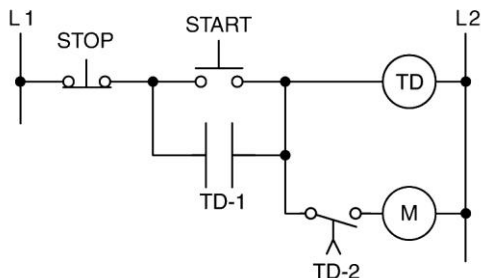

Figure 7-8 Hardwired timer for question 13.
13. For the hardwired timer circuit of Figure 7-8, contact TD-1 is the _____ 13. _____